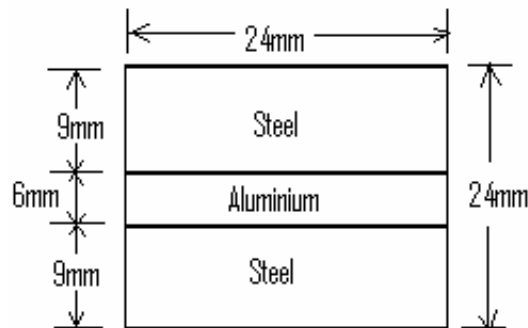

Figure.1
1. A flat bar of aluminum alloy 24 mm wide and 6 mm thick is placed between two steel bars each 24 mm wide and 9 mm thick to form a composite bar 24 mm × 24 mm as shown in Figure.1. The three bars are fastened together at their ends when the temperature is 10 degrees centigrade. Find the stress in each of the material when the temperature of the whole assembly is raised to 50°C. If at the new temperature a compressive load of 20kN is applied to the composite bar what are the final stress in steel and aluminum? Take $E_s = 2 \times 10^5 \text{ N/mm}^2$, $E_a = 2/3 \times 10^5 \text{ N/mm}^2$, $\alpha_s = 1.2 \times 10^{-5} \text{ per } ^\circ\text{C}$ and $\alpha_a = 2.3 \times 10^{-5} \text{ per } ^\circ\text{C}$. [15]